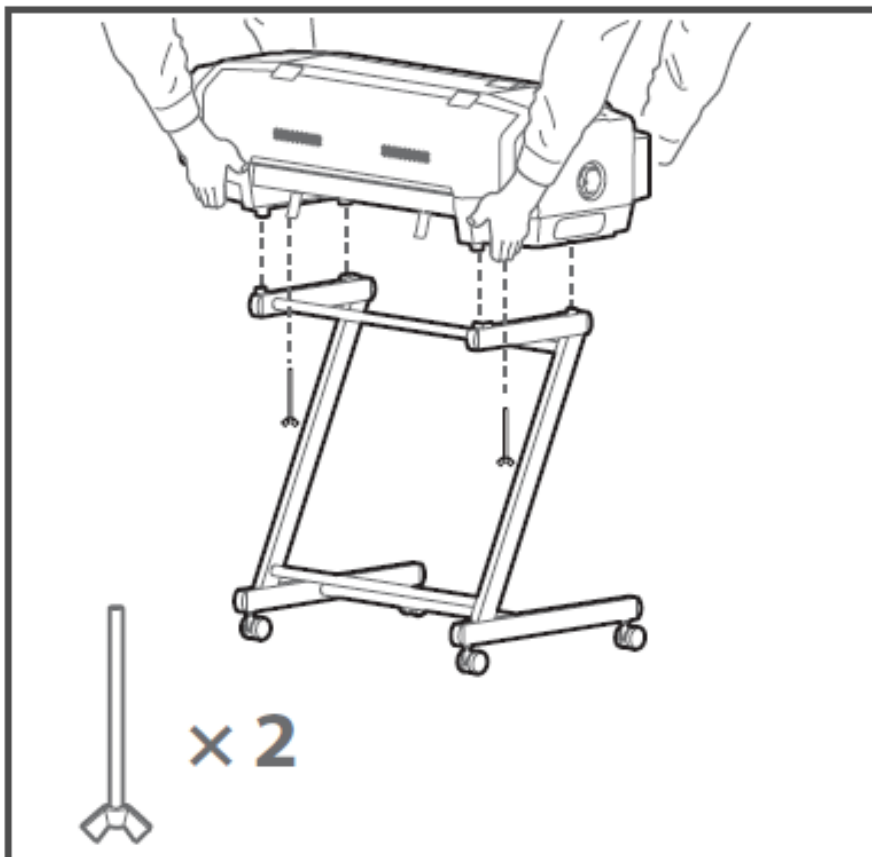

Figure 12
14. Align the printer's rubber feet with the stand's protrusions, and mount the printer to the stand with the two wing screws. See Figure 12.